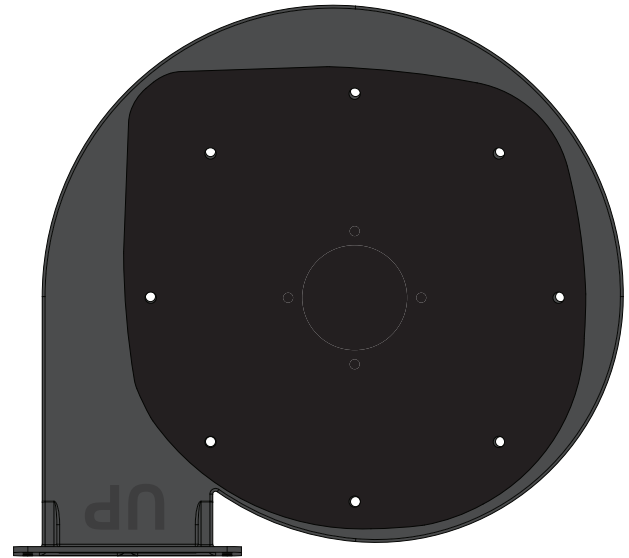

FIG. 7a
Carefully lift Motor Assembly (A) to top of Fan Housing (B) and align the Fan Housing holes with the motor plate holes following the orientation shown in [FIG. 7a].